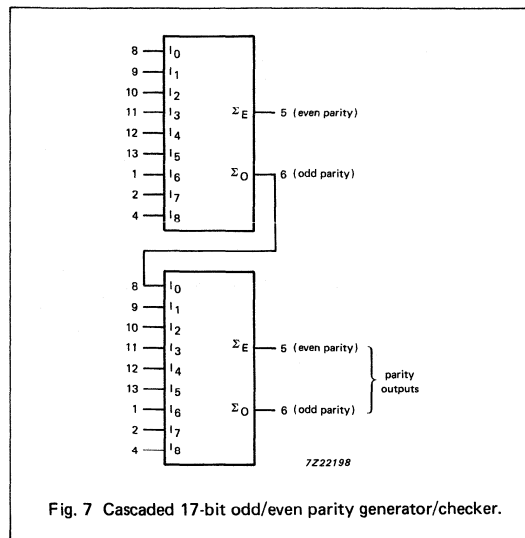

Fig. 7 Cascaded 17-bit odd/even parity generator/checker.
Fig. 7 Waveforms showing the master reset (\overline{MR}) pulse width, the master reset to output (Q_n) propagation delays and the master reset to clock (CP) removal time.
Note to Fig. 7